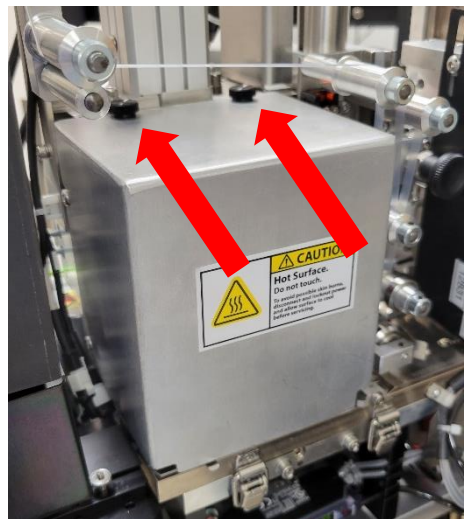

Figure 8
7. Remove metal sealing tape cover by loosening the two knobs at the top of the metal cover shown in Figure 8.